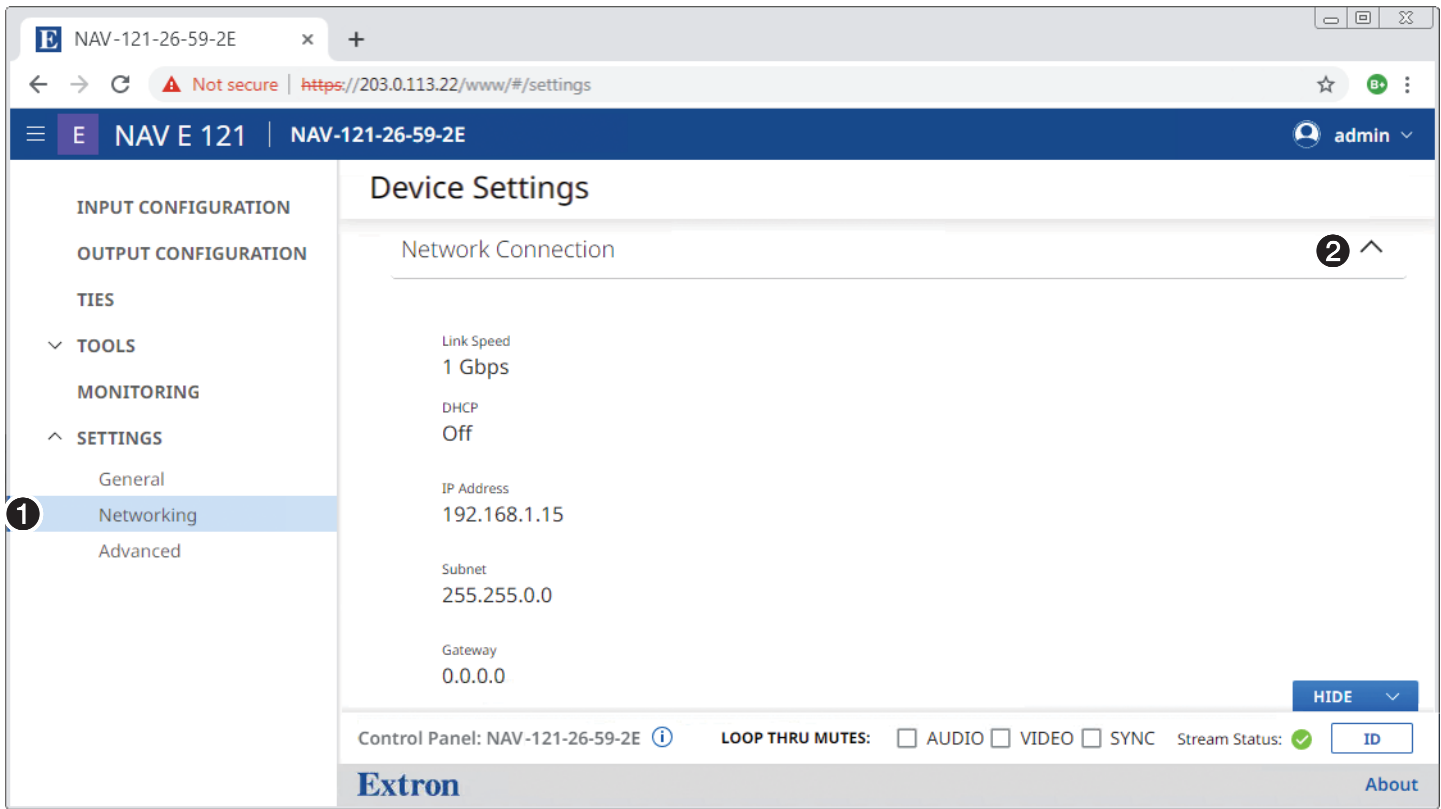

Figure 5. HTML Page
6. Enter the **Username** (see figure 4, **1**) and **Password** (**2**) and click **SIGN IN** (**3**). The browser opens to the embedded web pages (see figure 5 on page 4).
1. On the home page, click **Settings** (see figure 5, **1**) > **Networking**.